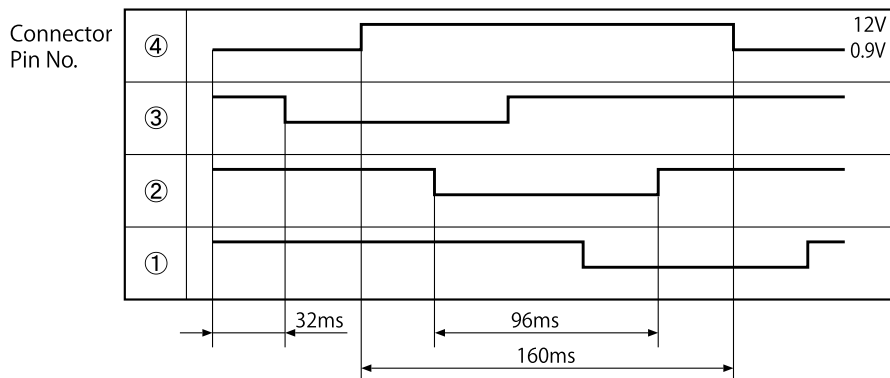

Fig. 5-2
- The relationship between the switching direction of the current phase and the open/close direction of the valves is shown in the following table. When current is applied, approximately 0.9V passes through pins ①-④ of CN15, CN19, CN26, CN27 and CN28; when no current is applied, it is approximately 12V. When the power is reset, the expansion valve is initialized for approximately 35 seconds. During initialization, use a tester to measure pins ①-④ on CN15, CN19, CN26, CN27 and CN28. If there is a pin that does not change at approximately 0.9V or 12V, there is an abnormality in that expansion valve or the control microcomputer.
- The logic waveform for when an expansion valve operates is shown in Fig. 5-2.